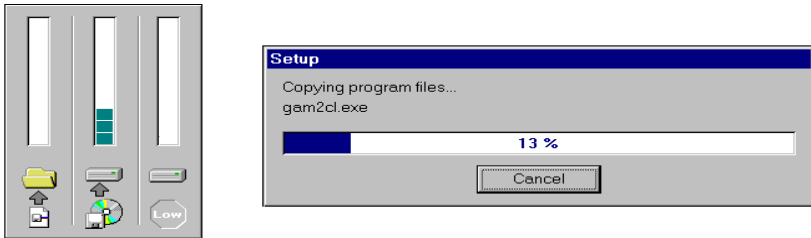
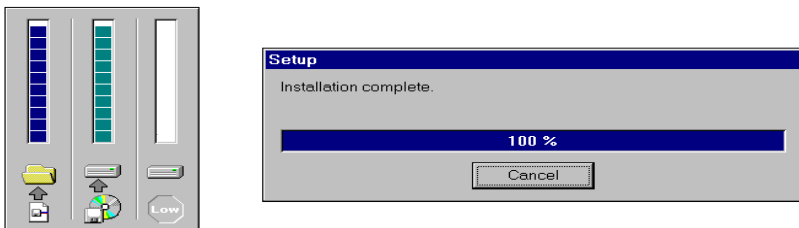

Figure 2-7. Installation Progress Display for Disk 1
Figure 2-9. Installation Complete
10. During installation, files are decompressed and copied from installation Disk 1 to the destination directory (Figure 2-7).
12. The Installation Progress Display (as was shown in Figure 2-7) continues until it registers 100% (Figure 2-9):